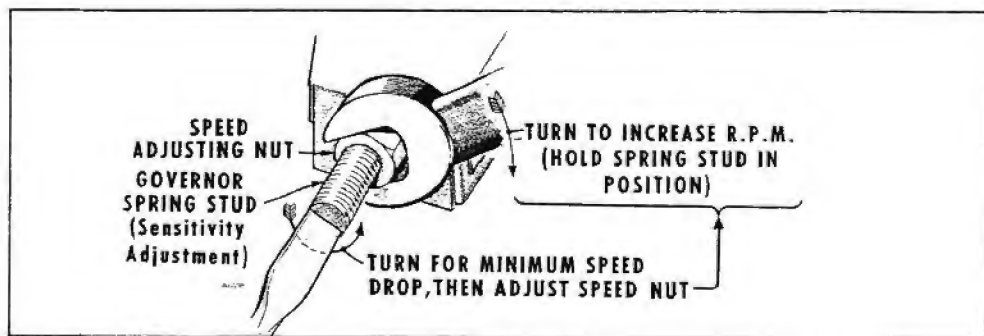

Fig. 20 Governor Adjustment
**Speed Adjustment** - Change the spring tension by holding the governor spring stud and turning the nut to adjust the engine speed, figure 20.
**Sensitivity Adjustment** - Adjust for minimum speed drop without a hunting condition. If the speed drops too much when full load is applied, unscrew the governor adjusting stud, figure 20, to use more coils of the spring. Hold the stud and turn the speed nut slightly for more spring tension to compensate for reduced rpm caused by making more coils operative. A too close sensitivity adjustment, approaching no speed drop when load is applied, will result in a hunting condition (alternate increase and decrease in speed).